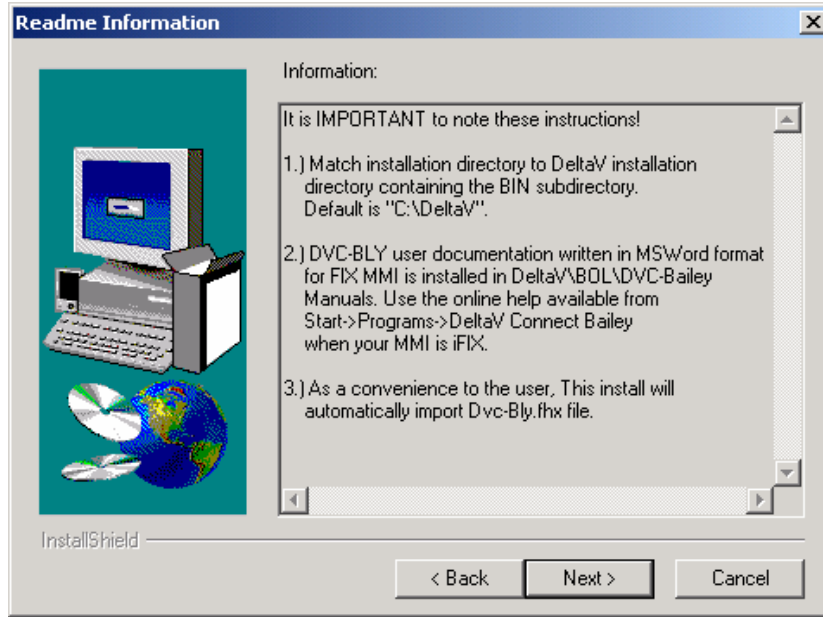

Fig 3.2.2 Important information for ProfessionalPlus install
4. The setup program will perform the install automatically. Answer any prompts as directed. Please note the important information screen (see fig 3.2.2). A new set of module blocks and templates related to the Bailey interface will be available from DeltaV Explorer (see fig 3.2.3)